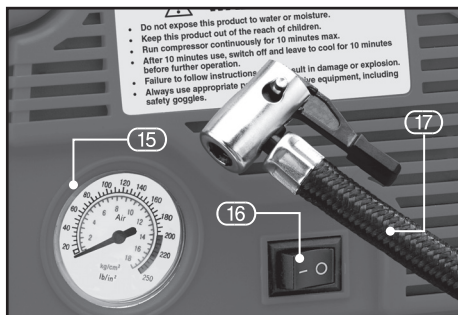

FIG.8
9.5 IN-BUILT AIR COMPRESSOR (FIG.8)